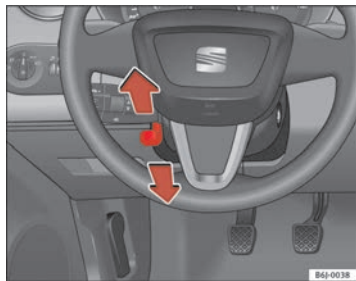

Fig. 92 Steering column height adjustment
- Push the lever under the steering column ⇒ fig. 92 down ⇒ ⚠.
- Adjust the steering wheel until the correct position is set ⇒ fig. 92.
- Adjust the driver seat or steering wheel so that there is a distance of at least 25 cm between the steering wheel and your chest ⇒ fig. 92. If you fail to observe the minimum distance, the airbag will not protect you. Risk of fatal injury.